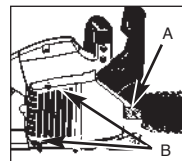

Fig. 17A
1. Remove the 2 bar retaining nuts (A) and loosen the 2 screws (B) that secure the chain brake cover. (Fig. 17A)
2. Remove the 2 bar retaining nuts (A) and loosen the 2 screws (B) that secure the chain brake cover. (Fig. 17A)